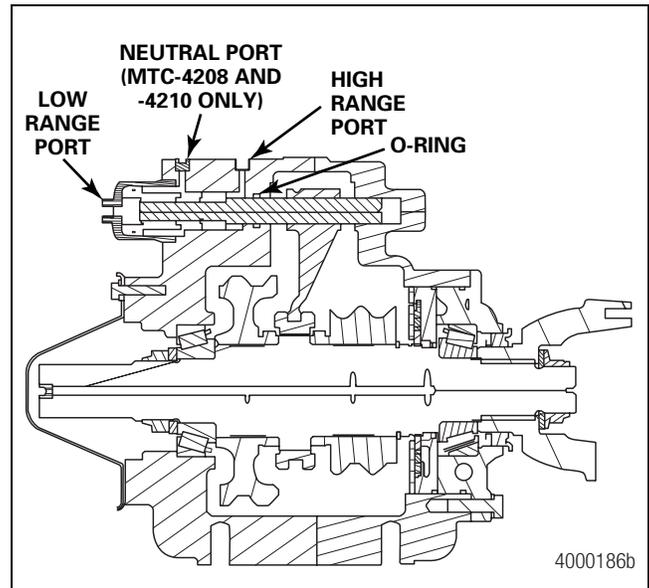

Figure 6.6
- Lubricate and install the O-ring into the rear cover push rod journal. Use a light coat of lithium-based grease, Meritor specification O-688, prior to cover installation. Figure 6.6.